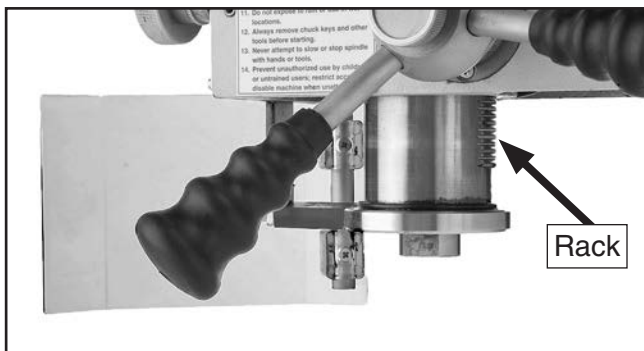

Figure 42. Quill rack location.
1. Move quill down to gain full access to quill rack (see **Figure 42**).